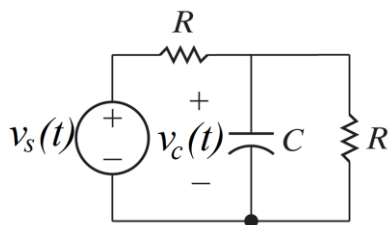

Figure 1: RC Circuit
- Derive the governing differential equation in standard form for the circuit in Figure 1 and state the static gain and time constant.
- State the solution to the governing differential equation in Figure 1 assuming zero initial conditions, a step input with constant amplitude, A , $C = 1 \mu\text{F}$ and $R = R = 1 \text{ k}\Omega$.
Use the measured values of the resistors and capacitor to calculate the time constants, τ , for the circuit shown in Figures 1 ($\tau = R_{th}C$). This will be the nominal value for the time constant for this circuit should be compared to the theoretical values found in the prelab. Table 2 provides an example of this comparison, $\% \text{ error} = \frac{\text{nominal} - \text{theoretical}}{\text{theoretical}} \times 100$. Note that since you are using 5% resistors and 20% capacitors, the time constant may have up to a 20% error.
Use the measured values of the resistors and capacitors to calculate the static gain, K, for the circuit shown in Figure 1. This value will be the nominal static gain for RC Circuit for the remaining of the measurements in the lab (see Table 3).